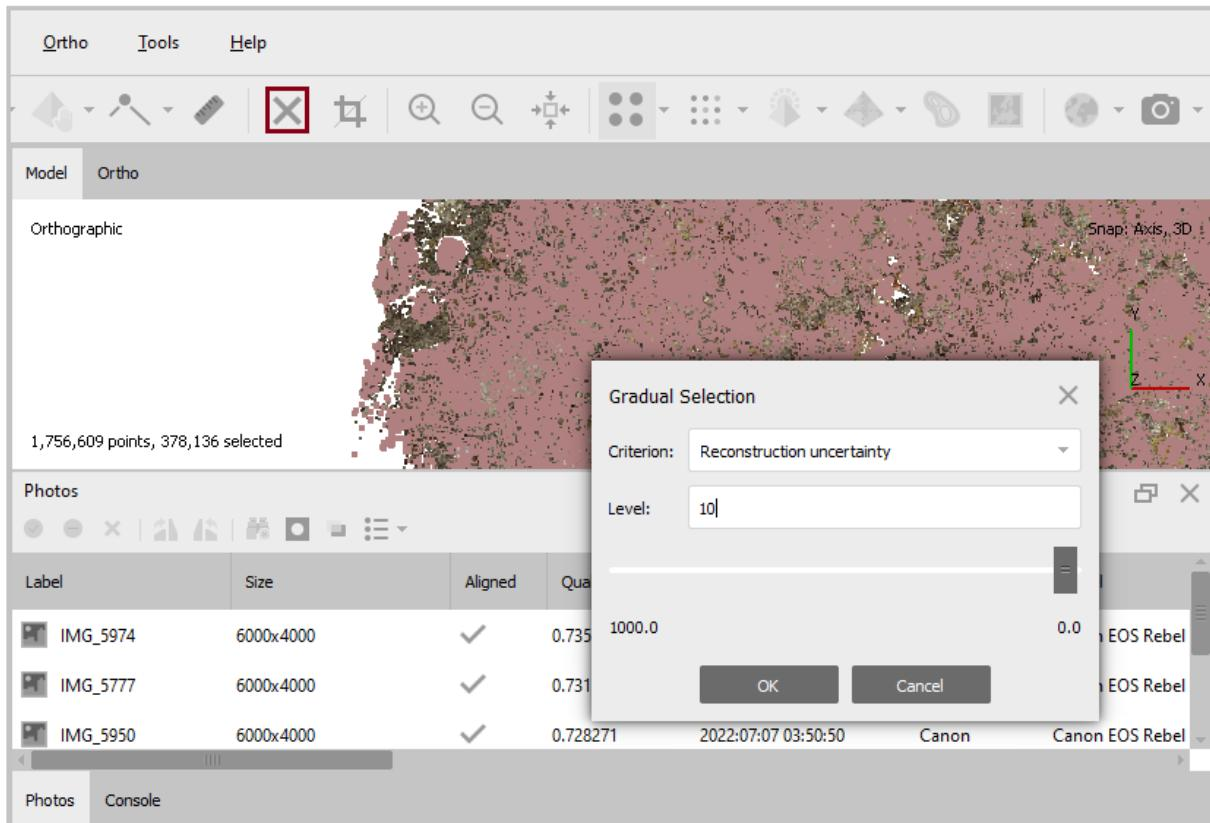

Figure 4.10 Example of Gradual Selection tie point filtering.
- *Reconstruction Uncertainty* (Figure 4.10): Find a “Level” value between 10 and 15 that selects no more than 50% of the tie points. Increase the upper value if more than 50% of points are selected.